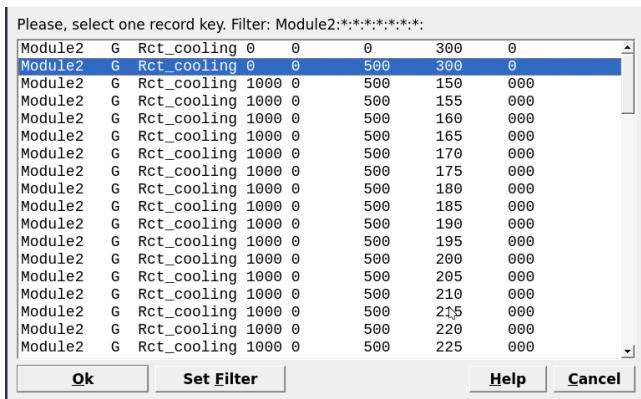

Figure 2.18: Select the parent record generated in ‘SysEq’ for your new ‘Process’ simulation.
- Switch to **Process** simulation mode and clone Rct\_path\_2. Select the Rct\_cooling **SysEq** record (Fig. 2.18). Then call this new record Cooling\_150-300C and select P for the simulation mode.